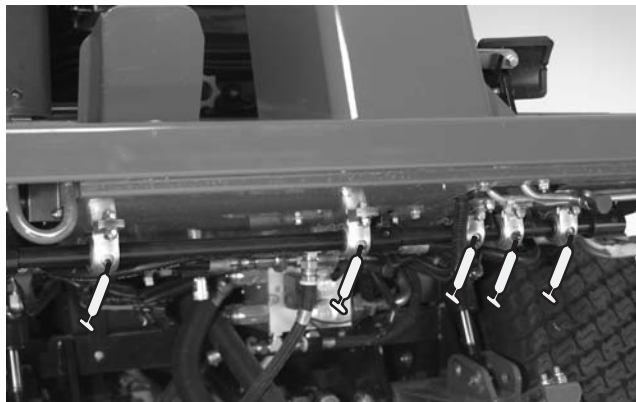

Figure 32
- Brake shaft pivot bearings (5) (Fig. 32)